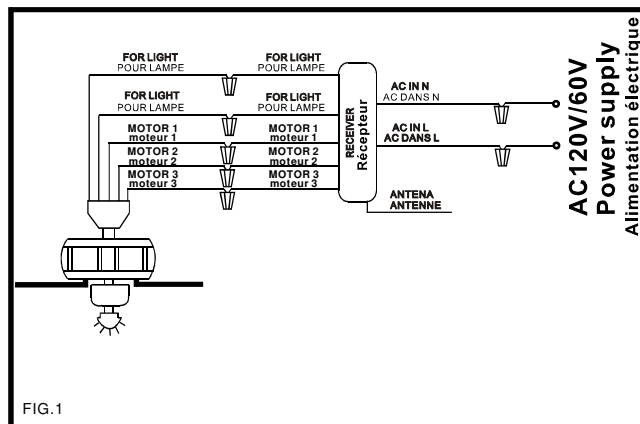

FIG.1
3. CONNECTING THE RECEIVER (FIG.1)